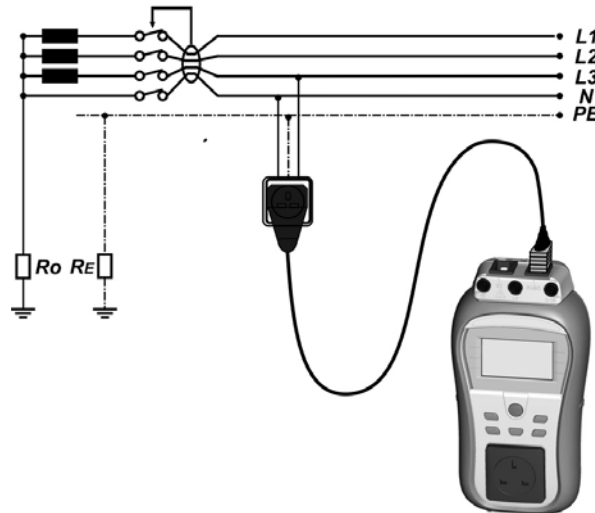

Figure 5.41: Voltage measurement with the IEC cord
- Connect the IEC cord to the instrument's MAINS terminal and to the external mains socket as shown on **Figure 5.41**.